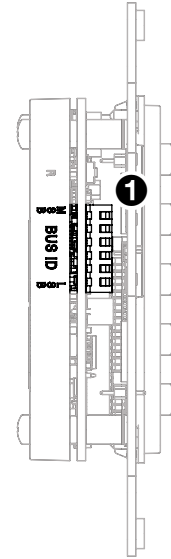

Figure 8. Decorator-style eBUS Panel DIP Switches
Up to eight devices can be connected to one control processor. In order for the control processor to be successfully configured, each device connected to the same control processor must have a unique six-bit, eBUS ID, which is set with the DIP switch assembly on the side panel of the EBP (figure 8, ①). If two or more modules have the same eBUS ID, address conflicts may cause one or more of the panels to not be recognized by the IPCP Pro control processor.